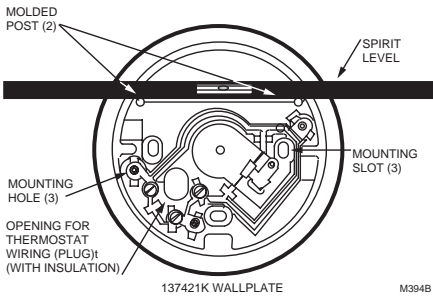

Fig. 1. Level wallplate before mounting thermostat.
1. Hold wallplate in position and mark holes for anchors. See Fig. 1. Obtain wall anchors locally. Be careful that the wires do not fall back into the wall opening. Set aside the wallplate. Drill four 3/16 in. (4.6 mm) holes and gently tap anchors into the holes until flush with the wall.
2. Pull electrical wires through the wallplate opening. See Fig. 1.
4. Level the wallplate using a spirit level. See Fig. 1. Firmly tighten the mounting screws. The mounting holes provide for minor out-of-level adjustments.